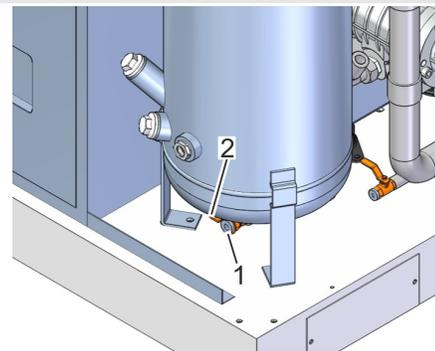

Fig. 29: Oil drain
4. Unscrew the screw plug (Fig. 29/1).
5. Carefully open the oil drain (Fig. 29/2) and check the liquid being drained.
7. Close the oil drain (Fig. 29/2).
8. Screw the screw plug (Fig. 29/1) back in.